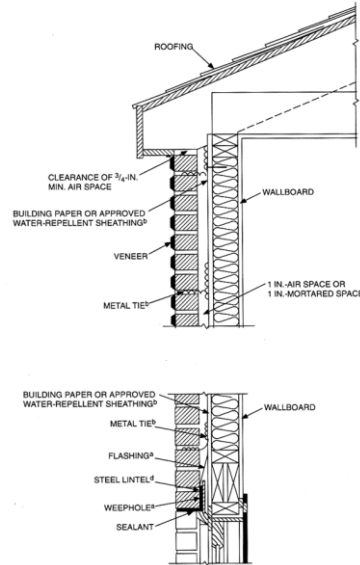

FIGURE R703.8—continued
R703.8 Stone and masonry veneer, general. All stone and masonry veneer shall be installed in accordance with this chapter, Table R703.3(1) and Figure R703.8. These veneers installed over a backing of wood or cold-formed steel shall be limited to the first story above grade plane and shall not exceed 5 in. in thickness.